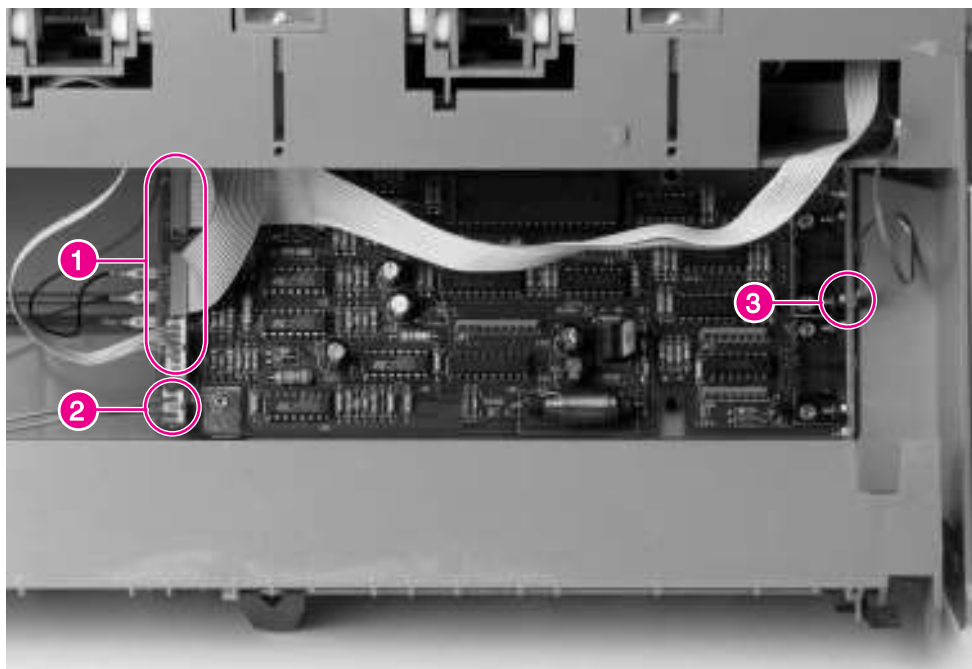

Figure 6-183 Stapler Controller PCA (2 of 3)
- 4 Unplug the cables that are connected to the PCA. Identify their color and size and the ground cables (see figure 6-183, callouts 1 and 2).
- 3 Unplug the ground and signal cables from the right side of the Stapler Controller board, being careful to keep them in the cable holder. See callout 1 and 3 on figure 6-183.
- 6 Disconnect the 2 cables in the hinge containing cables from the Stapler Controller PCA (see figure 6-183 on page 368, callout 2).